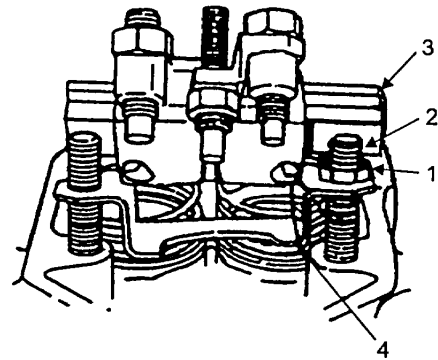

FIGURE 5-16. REMOVE ROCKER ARM
- a. Remove four nuts (Figure 5-16, Item 1) from four studs (2).
- b. Remove rocker shaft (3) with rockers, lifting eye, and two air shields.
- c. Remove clamp (4).